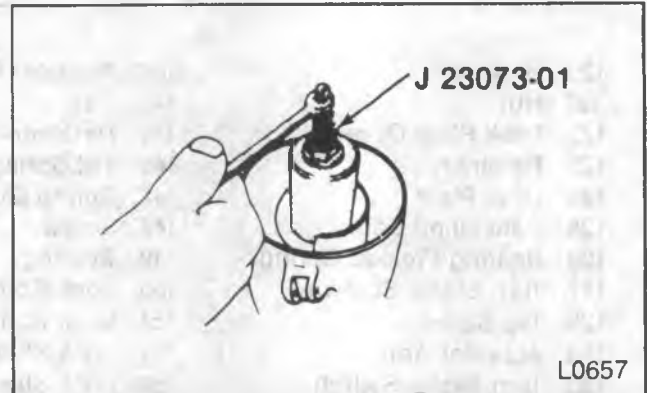

Figure 26—Installing Shift Tube Assembly
12. Shift tube (194) into the lower end of the mast jacket (192).
- Place the nut on the threaded end of the tool and pull the shift tube (194) into the housing (figure 26).
13. Bearing support washer (180) and retaining ring (179). Pull the shift lever housing up far enough to compress the lock plate washer.
15. Screws (173) through the support and into the lock plate (181).
- Screws (173) to 6.8 N·m (60 in. lbs.).
- Align the lower bearing adapter (195) with the notches in the jacket (192).
16. Adapter (195) into the lower end of the jacket (192).
17. Lower bearing (196), bearing reinforcement (197) and retaining clip (198).
- Align the retaining clip (198) with the slots in the reinforcement (197), jacket (192) and adapter (195).
18. Centering spheres (169) and anti-lash spring (170) in the upper shaft (168).